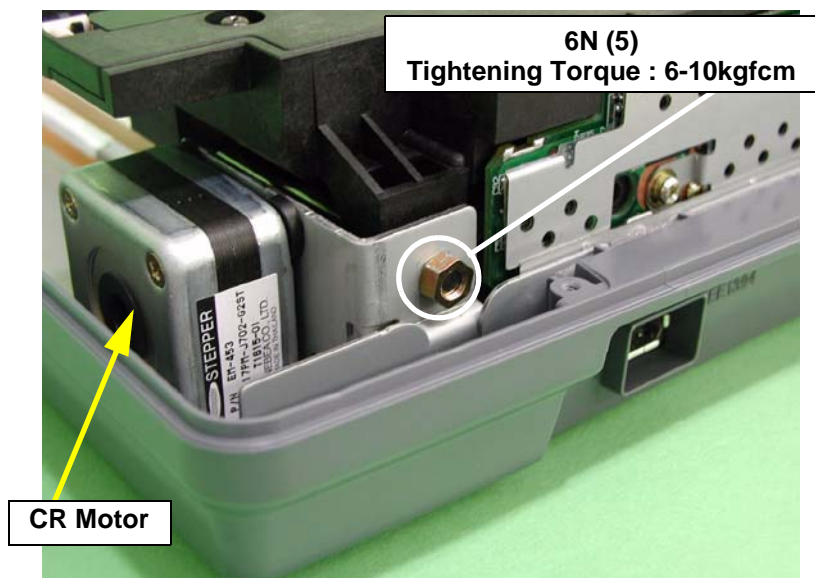

Figure 4-11. Carriage Unit Removal (1)
4. Remove the hexagon nut (6N, 5). (See Figure 4-11)